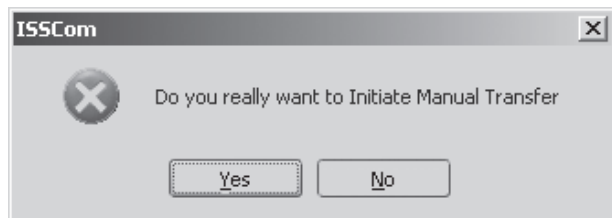

Figure 2-4 Initiate Manual Transfer Confirmation Screen
5. From the ISScom Main Screen menu select **Initiate**. ISScom will display the Initiate Manual Transfer Confirmation screen (Figure 2-4).